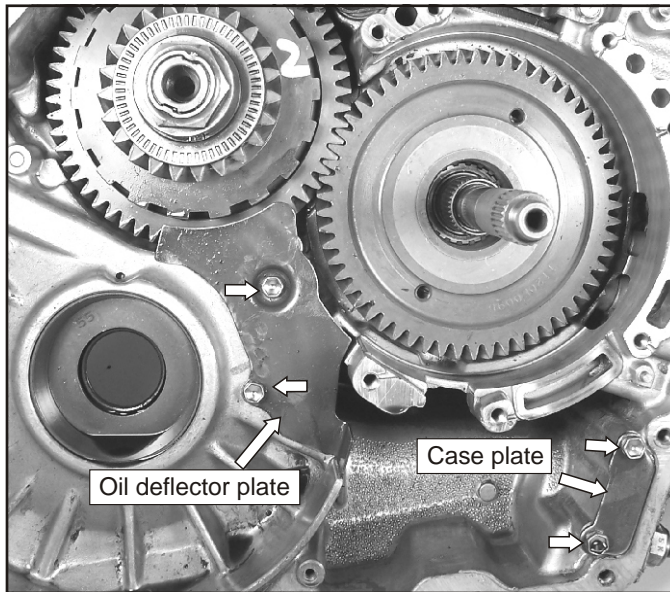

Figure 52
12. Remove the 2, 10mm headed oil deflector plate retaining bolts and the 2, 10mm headed case plate retaining bolts as shown in Figure 52. *Note the bolt lengths are 13mm long.*